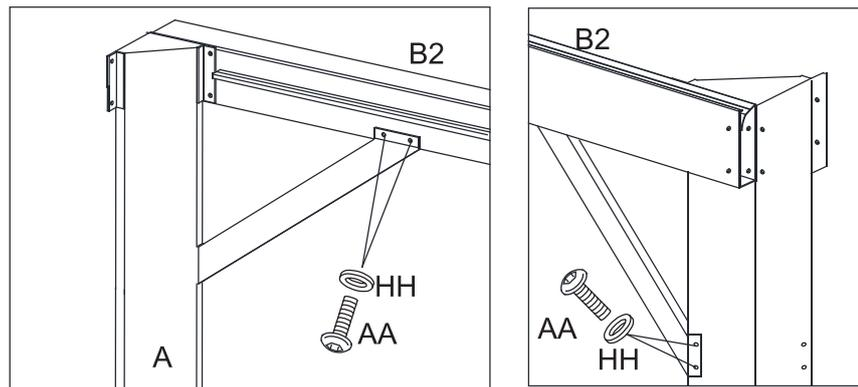

Figure 4.3
4.3: Attach Support Bars (F1/F2) to Corner Post (A) and to Lintels (B1/B2) with Bolts (AA) and washer (HH). See Figure 4.3.